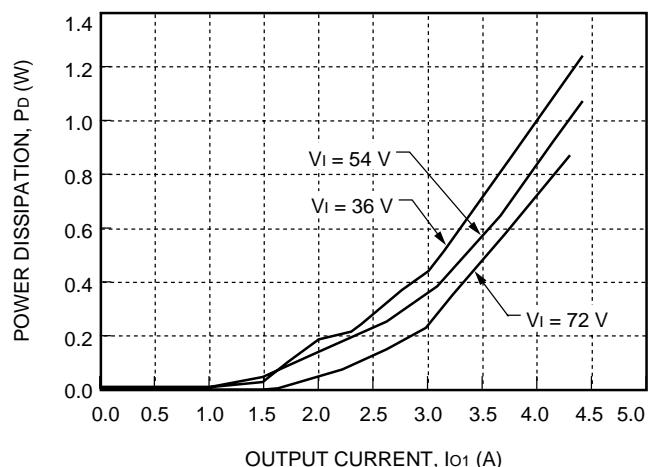

Figure 25. CW025ABK-M, CW025ACL-M Losses,
3. Use the desired output current (I_{O1}) with Figure 25 to determine P_{S1} , which is the additional power being dissipated due to loading of the main output.
$$P_{S1} = 0.22 \text{ W} \text{ (from Figure 25)}$$